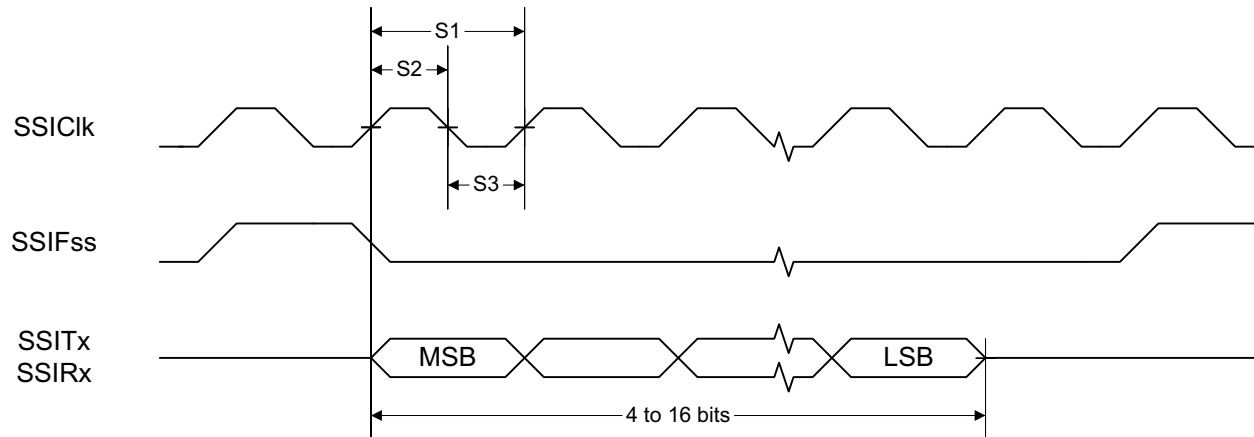
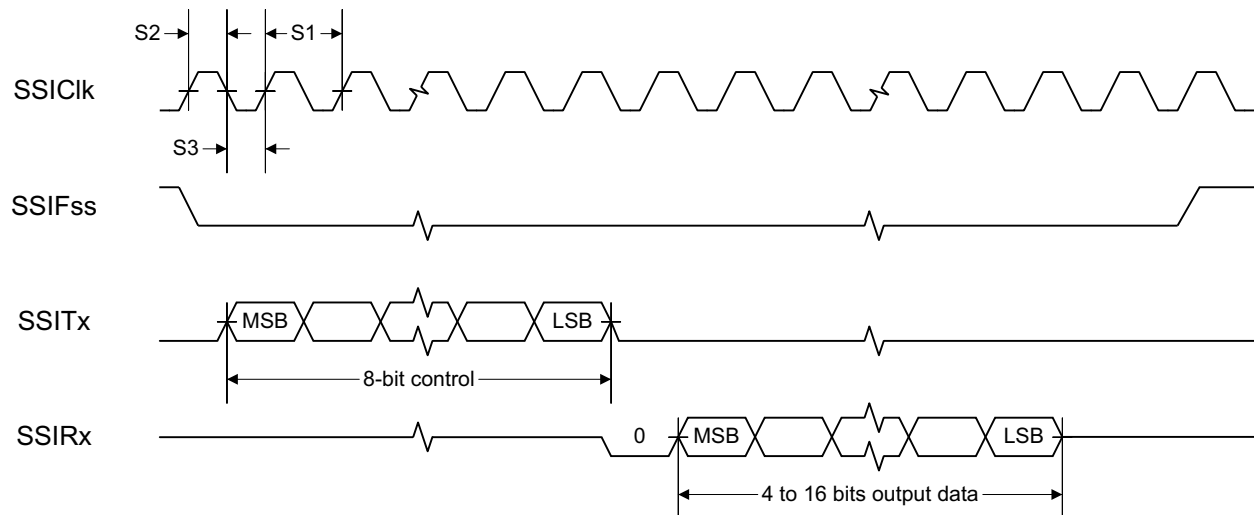
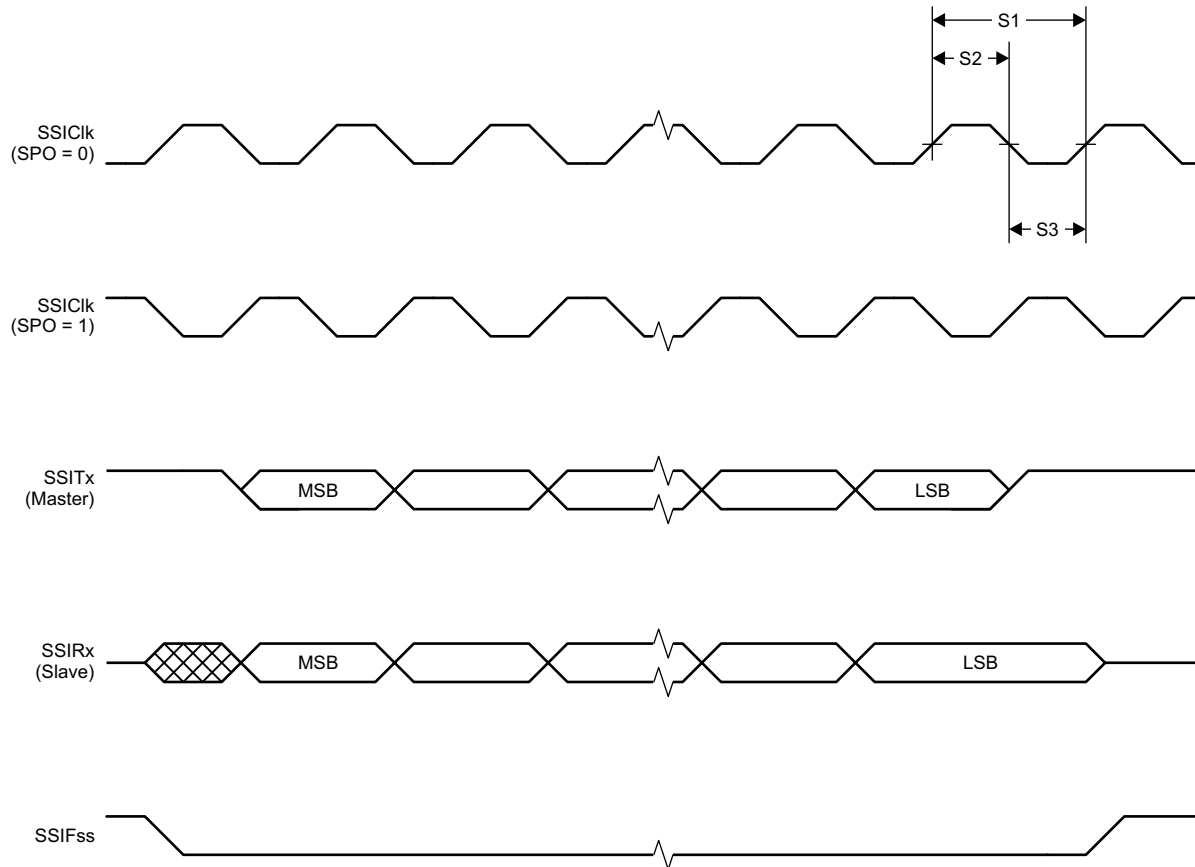

Figure 5-1. SSI Timing for TI Frame Format (FRF = 01), Single Transfer Timing Measurement
Figure 5-2. SSI Timing for MICROWIRE Frame Format (FRF = 10), Single Transfer
Figure 5-3. SSI Timing for SPI Frame Format (FRF = 00), With SPH = 1
(1) Refer to SSI timing diagrams Figure 5-1, Figure 5-2, and Figure 5-3.